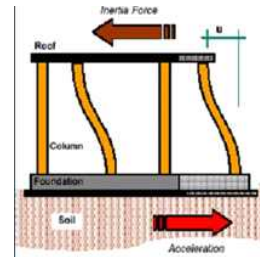

Fig 2: Inertia force and relative motion within a building
- During earthquake shaking, the columns undergo relative movement between their ends. Inertia In Figure 2, this movement is shown as quantity u between the roof and the ground.